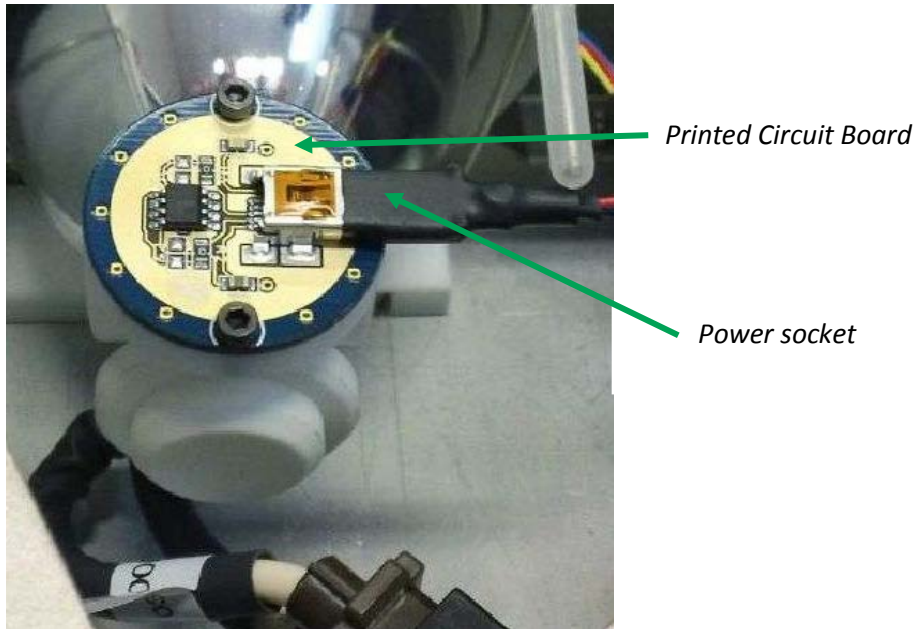

Figure 5
- 8) The bulb is now vertically held in place. Plug the data connector into its socket on the Printed Circuit Board (Figure 5).